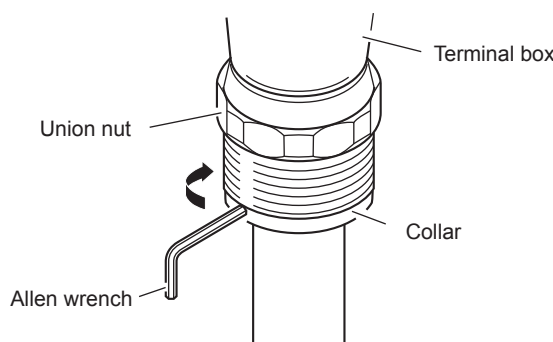

Figure 5.4 How to Remove Electrode Assembly
- (1) Stop the supply of power to the analyzer. How to disassemble or assemble the conductivity detector, refer to 5.1.1 Sensor Cleaning.
- (2) Disconnecting the electrode assembly from the dedicated cable
The electrode assembly of the SC210G low/medium-range conductivity detector is provided with a lead wire, which is connected to the dedicated cable through the terminal box. If the SC210G detector is used, remove the lead wires (4) of the electrode assembly connected to the terminal box. Separate the terminal box from the electrode assembly. The electrode assembly is fixed into the terminal box. Insert an Allen wrench into the two holes (ø3.2 mm) on the collar in the neighborhood of the union nut and turn it counterclockwise to remove it (see Figure 5.4).